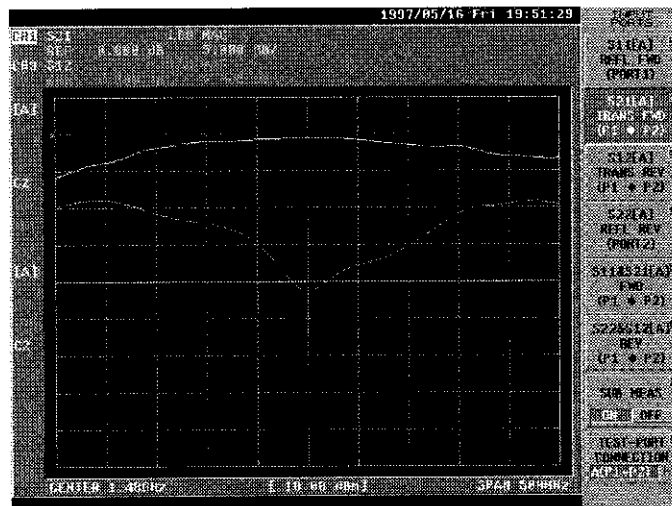

Figure 4-11 Transmission Characteristics between TEST PORT1 and TEST PORT2
- ④ The screen when TEST PORT CONNECTION A(P1-P2) is executed is displayed as shown in Figure 4-11.